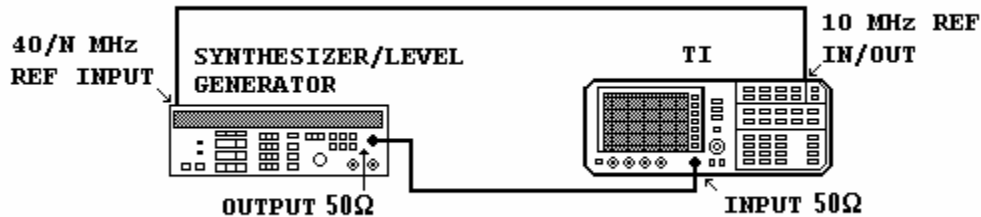

Figure 6. Frequency response - equipment setup.
- (14) Set signal generator frequency to 10 MHz.
- (15) Repeat (9) above.
- (16) Press TI **FREQUENCY** key then **[CENTER FREQ]** to **10 MHz**.
- (17) Press TI **SPAN** key then **[SPAN WIDTH]** to **10 kHz**.
- (18) Press **MARKER PEAK SEARCH** key.
- (19) Repeat (12) above.
- (20) Record measuring receiver indication.
- (21) Connect equipment as shown in figure 6.